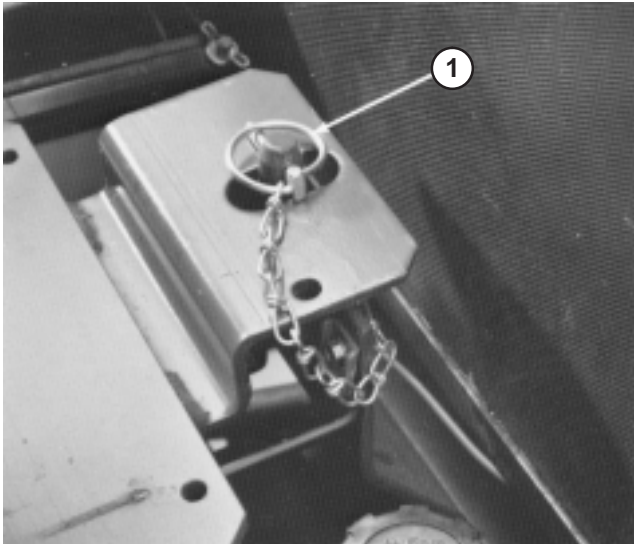

Figure 9
6. Disengage seat support rod and pivot downward. Pivot seat down and push lynch pin through seat latch stud. Flip wire end of pin over latch stud (Fig. 9).